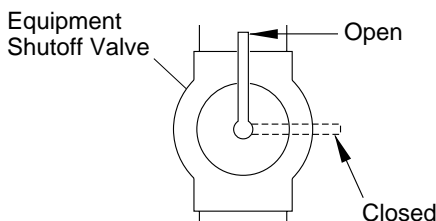

Figure 5 - Equipment Shutoff Valve
1. Open equipment shutoff valve (see Figure 5).